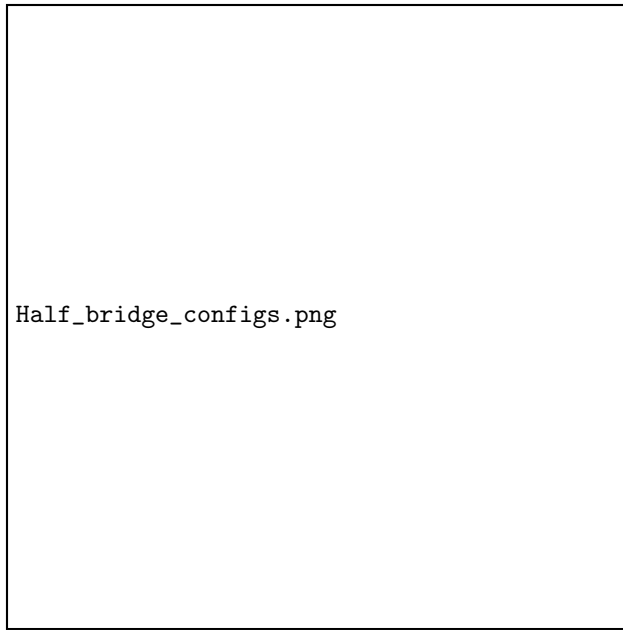

Figure 1: Half-Bridge Configurations, V_{OUT} between S^+ and S^-
This experiment is broken up into two parts. In Part 1, we will be gathering the average output voltage read from the two half-bridge configurations as shown in Figure 1 as weights hanging off the tip of the cantilever beam. In Part 2, we will be testing different sampling frequencies and collecting the output voltage read from the half-bridge circuit following Configuration B as the beam undergoes free vibration as a result of an applied force at the tip.
1. Create the half-bridge circuit following Configuration A as shown in Figure 1.
6. Switch to the half-bridge circuit following Configuration B as shown in Figure 1 and repeat steps 2 through 5.
1. Use the half-bridge circuit following Configuration B as shown in Figure 1.